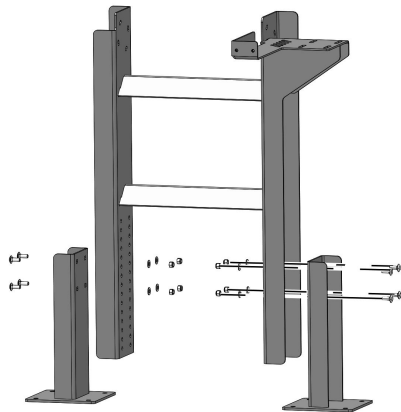

FIG. 3-1
1. Assemble the frame legs to the upper frame at the expected height of the finished incline as shown in FIG. 3-1.